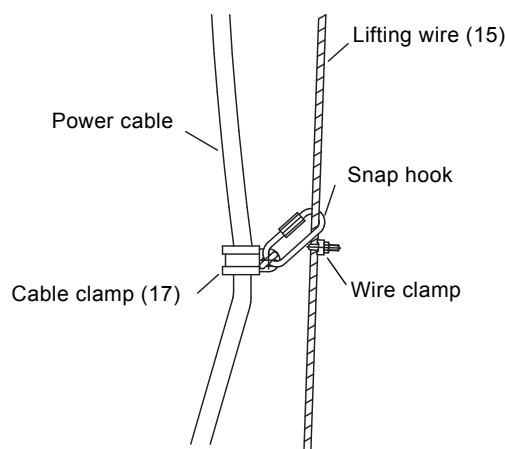

Fig. 9 Attaching the power cable to the lifting wire
15. Mount the lifting wire (15) on the motor bracket using the shackle. See fig. 9.
16. Mount the top end of the safety wire to the hole (31) of the top fixation bracket using a shackle. The other end of the safety wire ends in a shackle through which the lifting wire must run.
17. Fix the power cable to the lifting wire by means of a cable clamp approximately 2.6 ft (0.8 m) above the mixer. This will prevent the cable from falling down and becoming entangled in the propeller during operation. Connect the cable clamp to the lifting wire above the wire clamp by means of a snap hook. See fig. 9. Attach the power cable to the lifting wire by means of cable clamps placed at 1 m intervals.